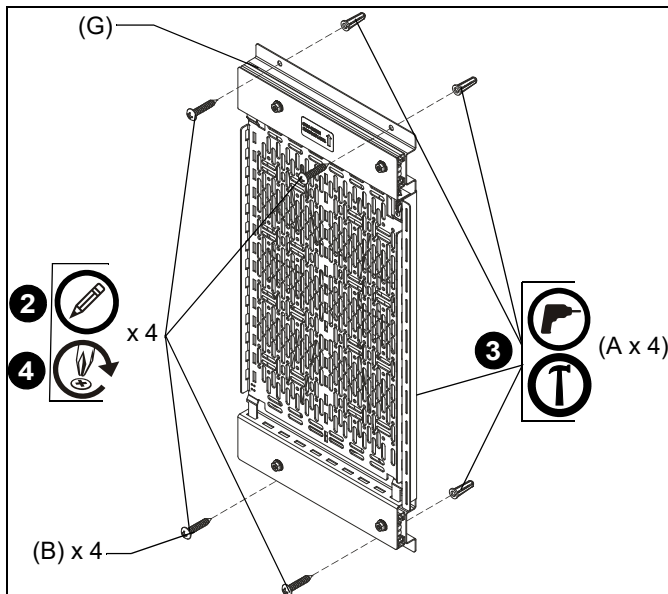

Figure 2
2. Using the CMSSP15X10 (G) as a template, mark the locations of four mounting holes. (See Figure 2)
4. Fasten storage panel (G) to wall using four #10 x 1" Phillips pan wood screws (B). (See Figure 2)
3. Drill four 1/4" pilot holes and insert drywall anchors (A) at markings. (See Figure 2)